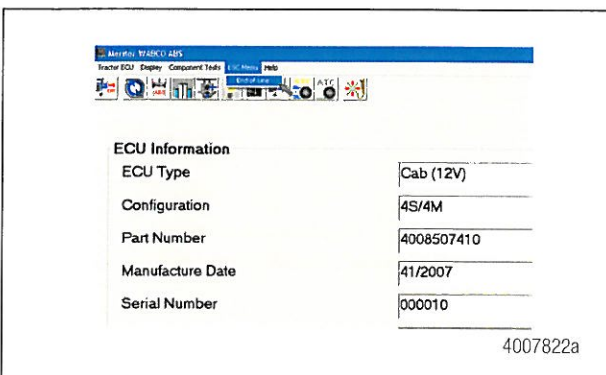

Figure 12
5. To access SAS Calibration, click on the ESC Menu from the bar menu at the initial screen. A drop box will illuminate. Select the "End of Line" option. Figure 12.